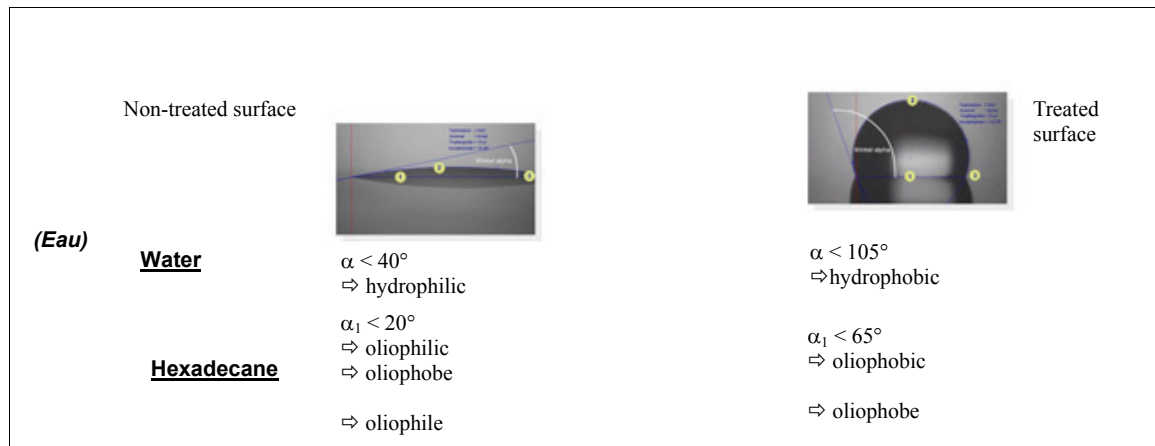

Fig. 8 NanoClean - Hydrophoby and oliophoby definition / contact angle
5.4 NanoClean / Hydrophoby and oliophoby definition / Contact angle (Fig. 8)